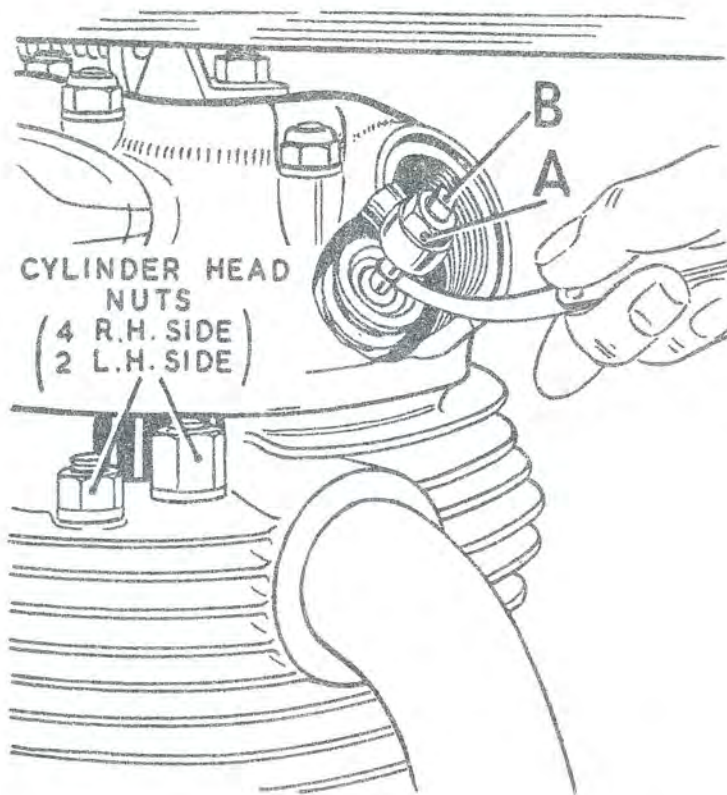

FIG. B.9. *Checking valve clearances.*
If the clearance requires adjusting slacken the locknut (A) and adjust the pin (B) until the correct gauge will just slide between the valve stem and pin (see Fig. B.9).